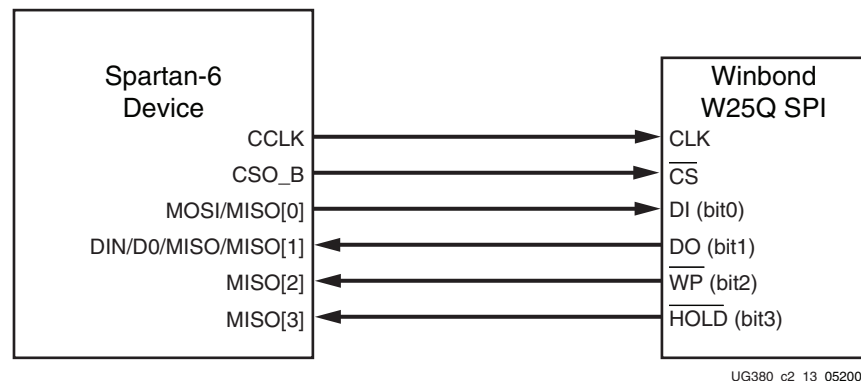

Figure 2-13: Master Serial Quad-Bit SPI Configuration
Figure 2-12 shows the connections for an SPI configuration with a data width of x1 or x2. These connections are the same because the x2 flash devices use the D pin as a dual purpose Data In/Out pin. Connections for the SPI x4 option are shown in Figure 2-13, page 41; two additional data pins provide a 4-bit data interface. Daisy-chained configuration mode is only available in SPI x1 mode. The FPGA pin connections to the SPI flash PROM involved in the Master SPI mode are listed in Table 2-5.
Spartan-6 FPGAs also support x4 configuration with SPI PROMs in Master Serial Mode. See Figure 2-13.
Notes relevant to Figure 2-13:
1. The connection shown in Figure 2-13 uses the Winbond W25Q SPI series flash PROM. To enable the Quad output operation, the user must set the QE bit of the PROM's